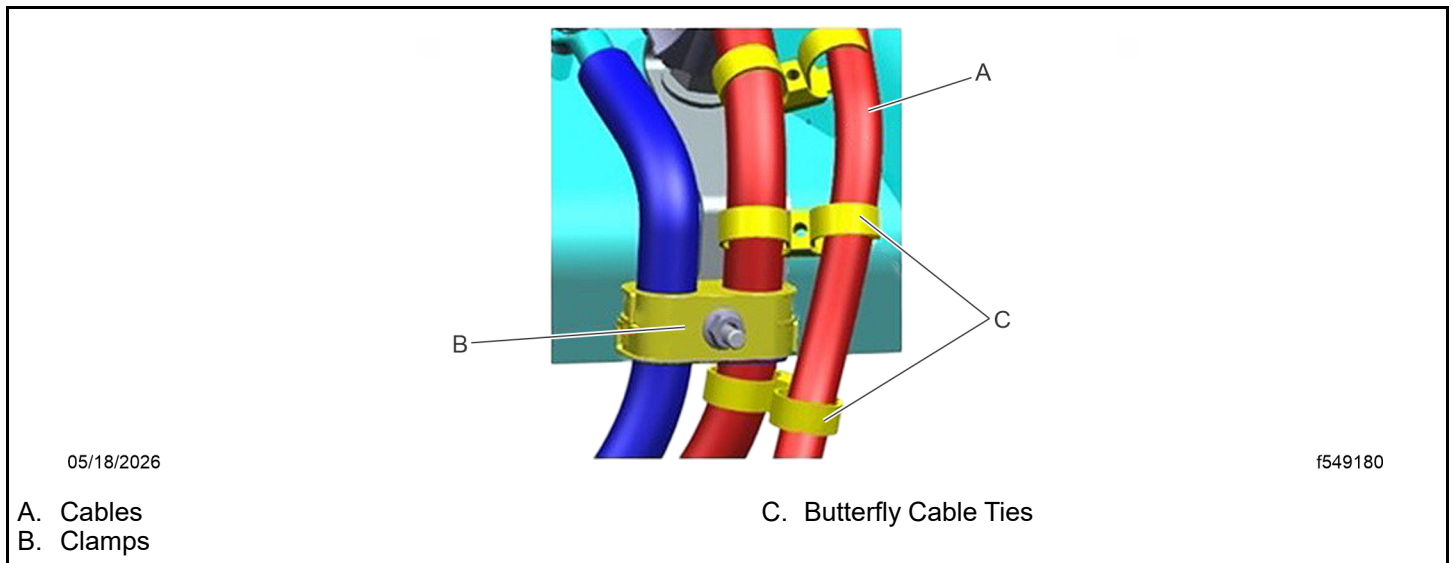

Fig 164, Butterfly Cable Ties Around the Cable Clamps
33. Install the upper and lower cable clamps on the isolator frame bracket. To prevent cables (A) from rubbing, secure any cables routed on the outside cable clamps (B) using butterfly cable ties (C) (TYCDCT110HIR). See Fig. **Fig. 164**.